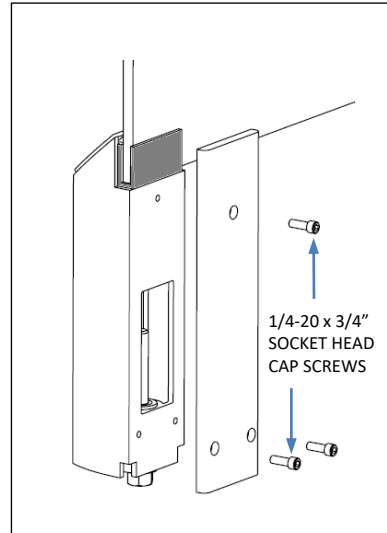

Fig. E12 – Install post cover plates
9. Install post cover plates, see Fig. E12. Do not fully tighten.